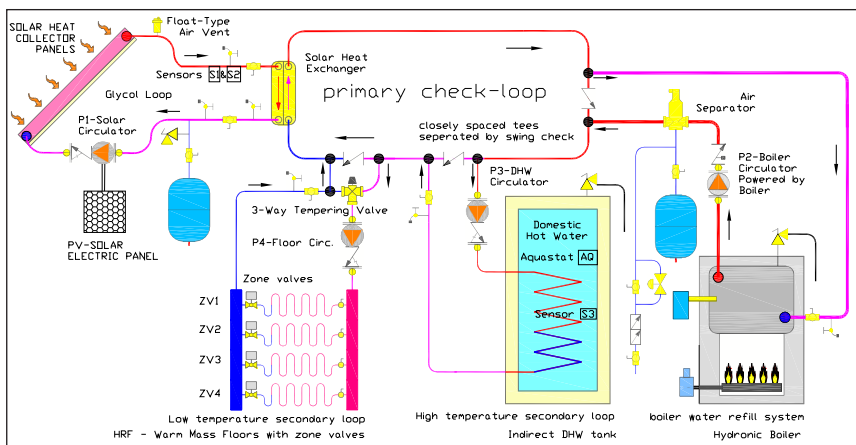

Figure 14-1
The diagram seen in Figure 14-1 shows the configuration that has
- Safety High Limit (P & T valve shown on the DHW tank in Fig. 14-1.)